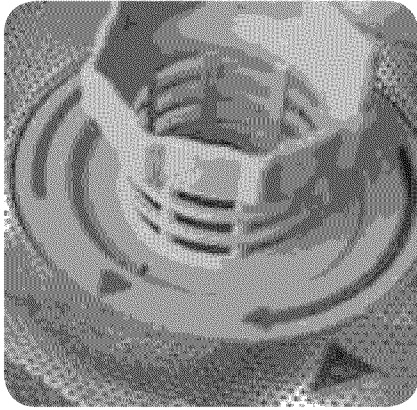

FIGURE 34
2. Grasp the assembly as shown in Figure 34 and turn it counterclockwise 1/4 turn.